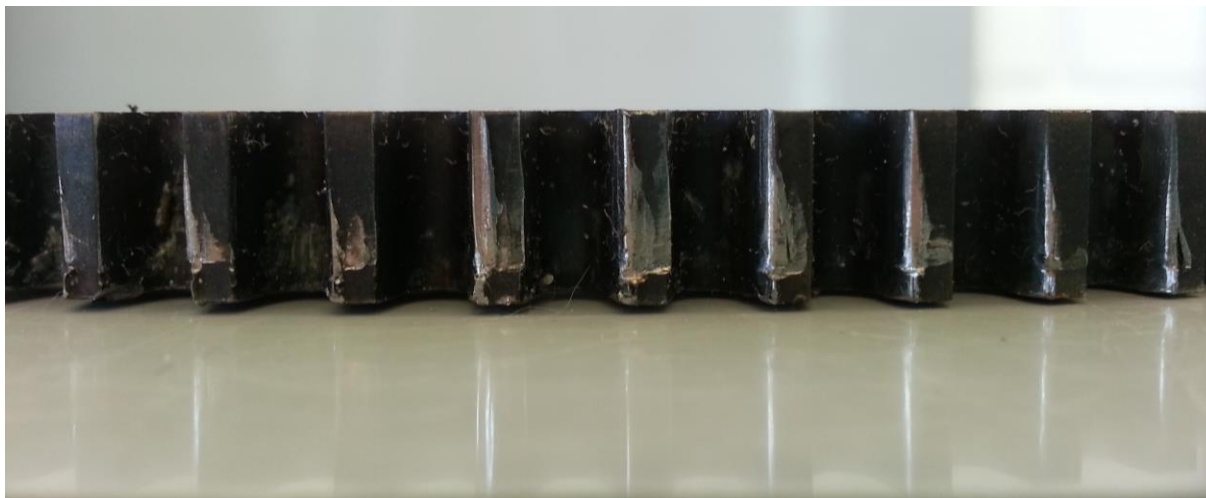

Fig. 1 - Wear Pattern (uneven)
- 2 If the wear pattern is uneven (see Fig. 1 / eg due to dynamic skew), the position of the bendix shaft must be inspected. Remove lower bearing and ensure that the shaft is, in free load condition, centrally positioned in the bearing seating. If free play in the upper bearing is present, the following must be carried out: